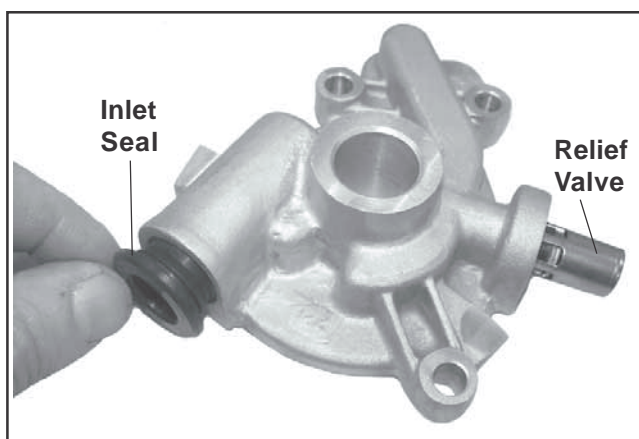

Figure 9-15. Installing Inlet Seal in Oil Pump Housing.
5. The relief valve is a one-piece style, staked to the oil pump housing; removal should not be attempted, nor is internal servicing possible. If a problem with the relief valve is encountered, the oil pump should be replaced. See Figure 9-15.
3. Lightly lubricate with oil and install the inlet seal into the oil pump housing until it is fully seated. See Figure 9-15.